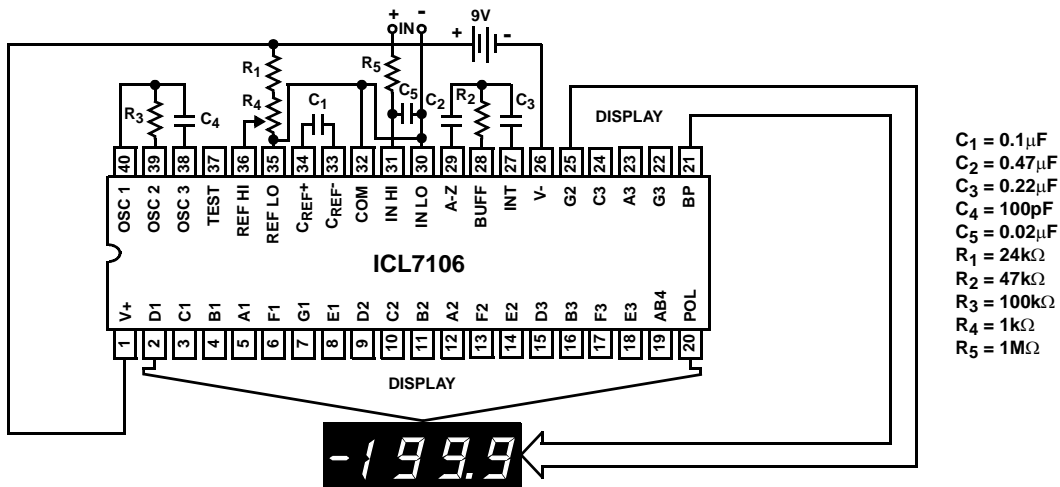
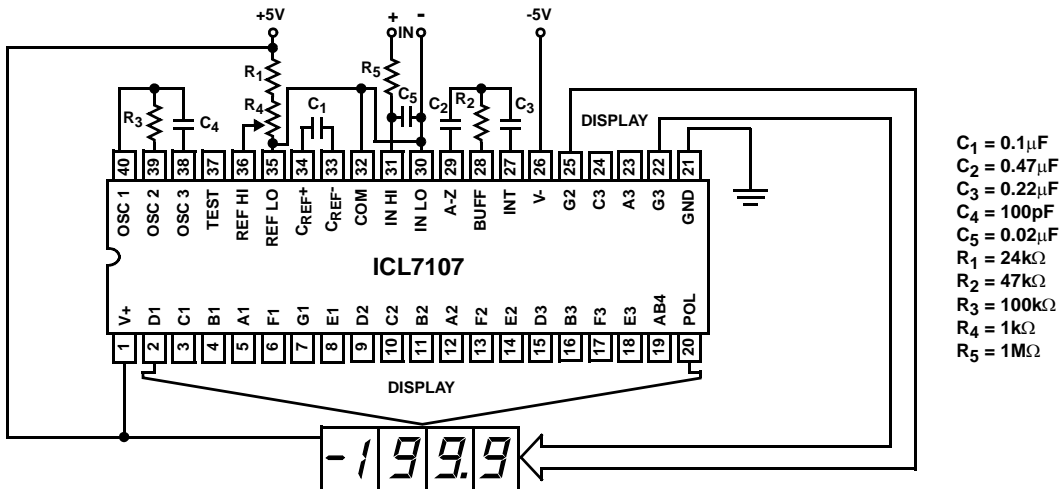

FIGURE 1. ICL7106 TEST CIRCUIT AND TYPICAL APPLICATION WITH LCD DISPLAY COMPONENTS SELECTED FOR 200mV FULL SCALE
FIGURE 2. ICL7107 TEST CIRCUIT AND TYPICAL APPLICATION WITH LED DISPLAY COMPONENTS SELECTED FOR 200mV FULL SCALE
- Unless otherwise noted, specifications apply to both the ICL7106 and ICL7107 at T_A = 25°C, f_{CLOCK} = 48kHz. ICL7106 is tested in the circuit of Figure 1. ICL7107 is tested in the circuit of Figure 2.